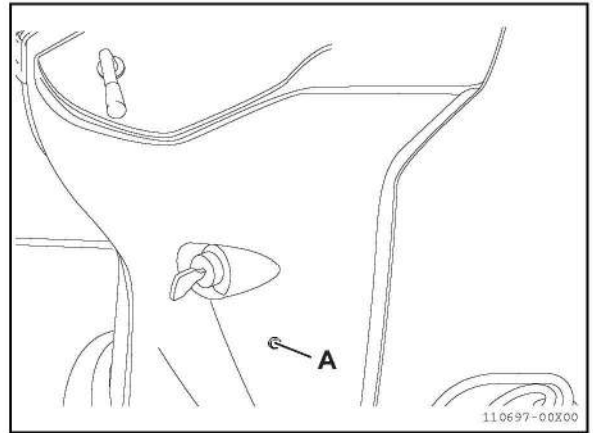

Fig 5-39
### (28) Operator presence warning lamp (Fig 5-39)